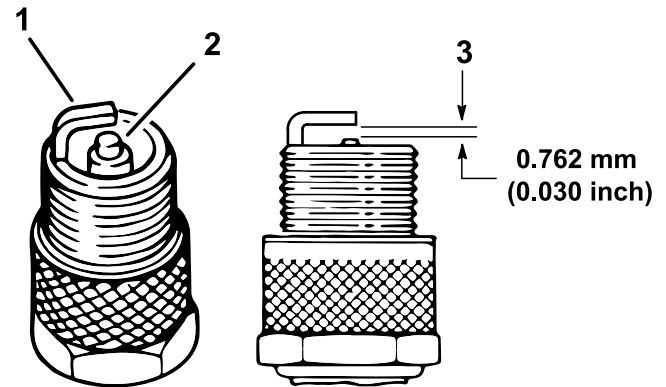

Figure 46
4. Check the condition of the side electrode, center electrode, and center electrode insulator to ensure that there is no damage (Figure 46).
5. Set the air gap between the center and side of the electrodes at 0.762 mm (0.030 inch) as shown in Figure 46.